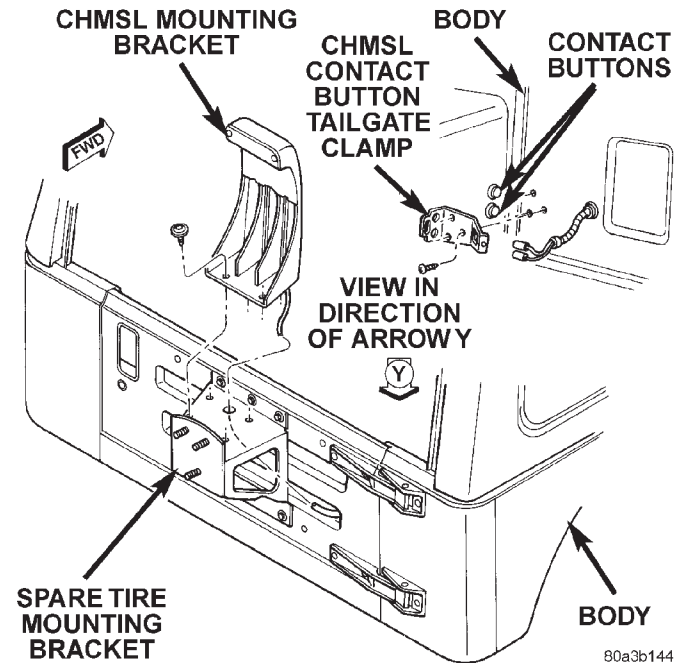

Fig. 8 CHMSL Assembly
(1) Remove the CHMSL housing to CHMSL bracket attaching screws.
(2) Disconnect the CHMSL wire harness from the retaining clips.
(3) Remove the cover from the CHMSL contact buttons.
(4) Carefully pull the wire harness terminal ends from the contact buttons (Fig. 8).
(5) Route wire harness through tailgate and separate CHMSL from vehicle.